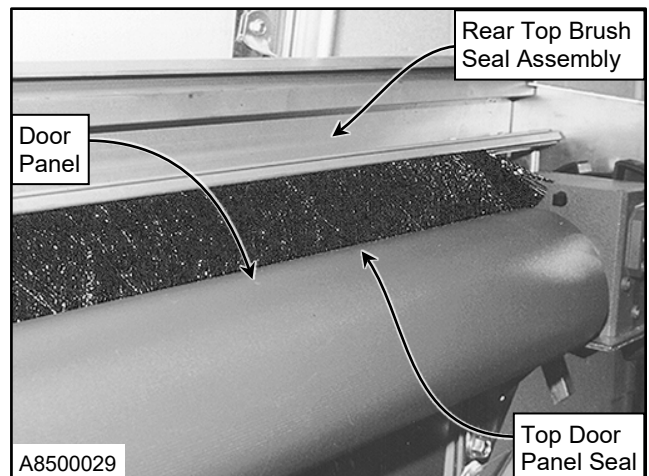
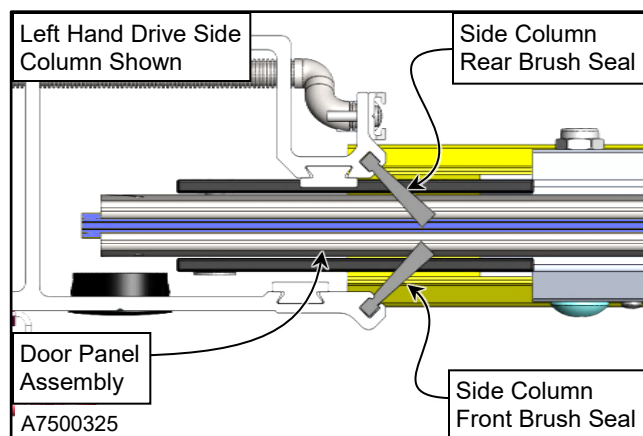

Figure 28
Figure 29
There are brush seals on the front & rear side of the door panel in the side columns as well as a brush seal between the door and the wall along the door's top lintel. (See Figure 28 & Figure 29)
3. Inspect the header weather seal for wear or damage. (See Figure 28) Replace if necessary. (See “WEATHER SEAL” on page 23.)
1. Inspect the weather seals in both side columns. Check for wear and tear, and check for a good, tight fit between the door panel and the seal. Replace if necessary. (See Figure 29)
2. Inspect all weather seals to confirm they are properly positioned. (See Figure 29)